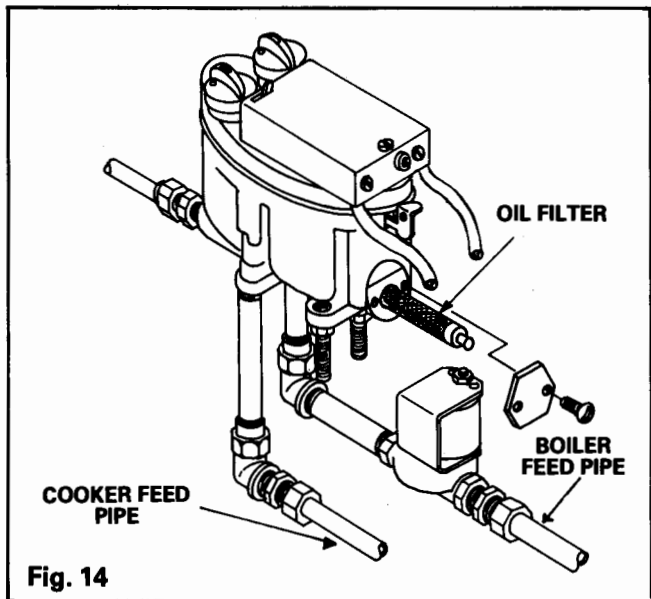

Fig. 14
6. Connect the oil feed pipe from the boiler and cooker burners to the respective outlet fittings on the underside of the oil control valve – See Fig. 14.
Remove oil filter within oil control valve (See Fig. 14) and connect oil flow gauge assembly.